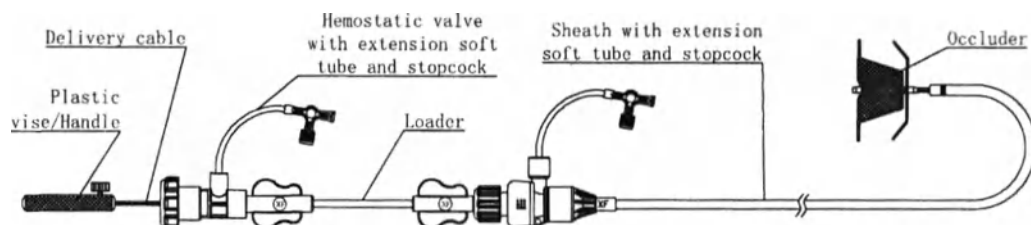

Figure 2 The KONAR-MFVSD Occluder and the SteerEase introducer
- The SteerEase introducer (Refer to Figure 2)